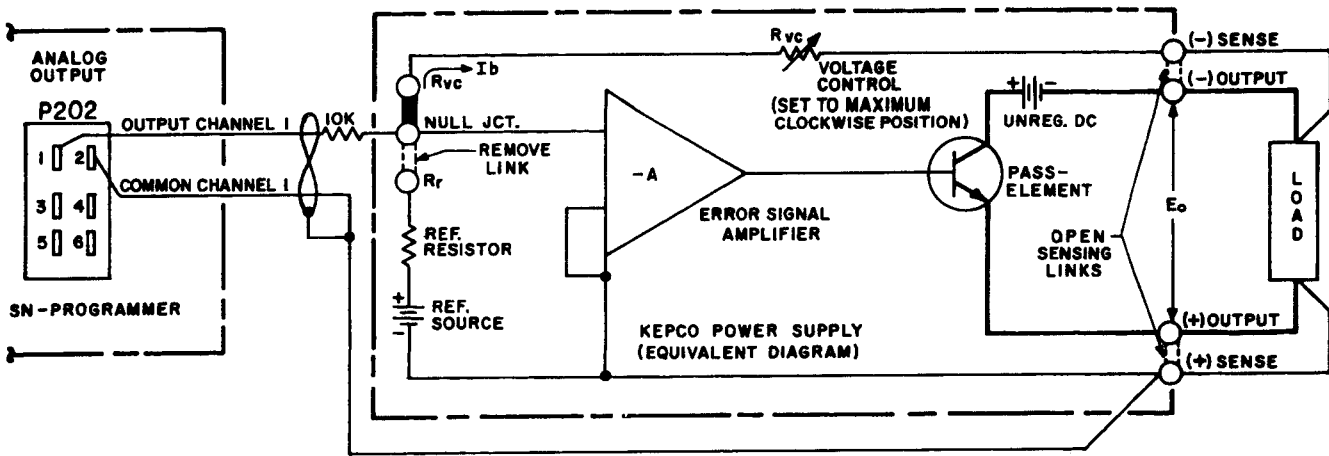

FIG. 3-5 OUTPUT VOLTAGE CONTROL WITH A TYPICAL KEPCO POWER SUPPLY AND THE SN PROGRAMMER
3-13 OUTPUT VOLTAGE CONTROL. Many Kepco Power Supplies require a d-c control current of 0 to 1 mA for zero to maximum output in the voltage mode. This requirement is readily satisfied by connecting a series resistance of 10k ohm as shown in Fig. 3-5. THE RESISTOR SHOULD BE LOCATED AS CLOSE TO THE POWER SUPPLY "NULL JUNCTION" TERMINAL AS POSSIBLE.
- A) According to Table 3-2, the interconnections between the SN programmer and the JQE are shown in Fig. 3-5. The relevant terminal numbers on the JQE rear barrier strip can be found in the Operating Section of the JQE manual.